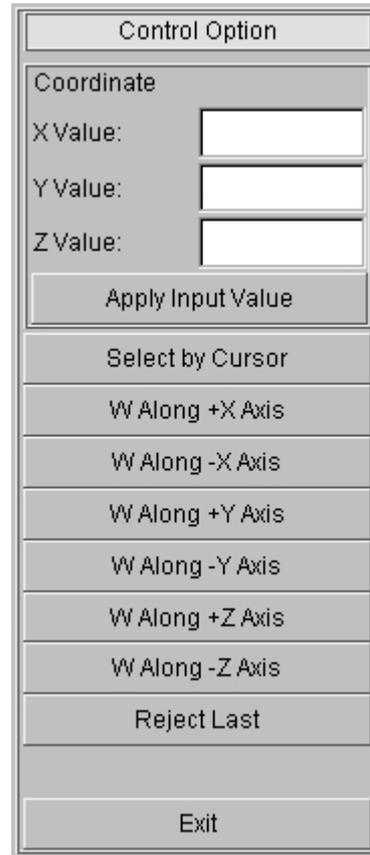

Figure 6.20 Section Cut menu
- To better view the springback result, you can create a section line along the part. Select menu **Tool**→**Section Cut**, as shown in Figure 6.20.